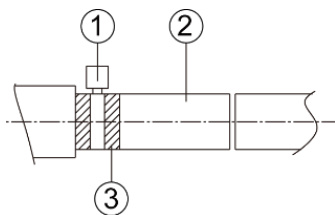
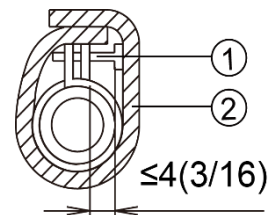

Fig 4.3.2
Fig 4.3.3
- (1) Insert the drain hose into the drain hole and tighten it with tapes, as shown in Fig 4.3.2.
- (2) Tighten the pipe clamp, with the distance between screw nut and hose smaller than 4mm (3/16 in.).
- ① metal clamp(accessory)
- ② drain hose(accessory)
- (3) Use sealing plate to make the pipe clamp and hose insulated, as shown in Fig.4.3.3.
- ② thermal sponge(accessory)